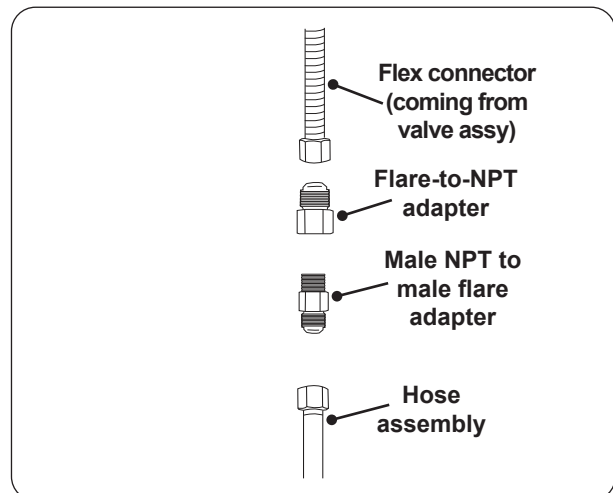

Fig. 30-1 Connecting flex to hose assy
1. Connect the L.P. regulator hose assembly (not included) to the flex connector that is coming off of the valve assembly (see Fig. 30-1).